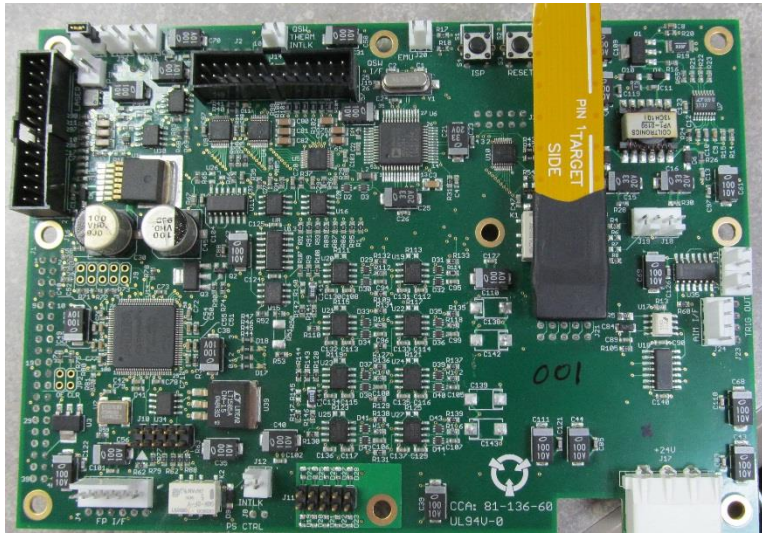

Figure 1. Expansion Module J22 Connector with Pin 1 Marker and USB Blaster Flex Circuit Cable
- a. Connect the USB Blaster to Expansion Module connector **J22**. Pin 1 on the Flex Circuit Cable of the USB Blaster should be aligned to Pin 1 marked on the circuit board shown in **Figure 1**.